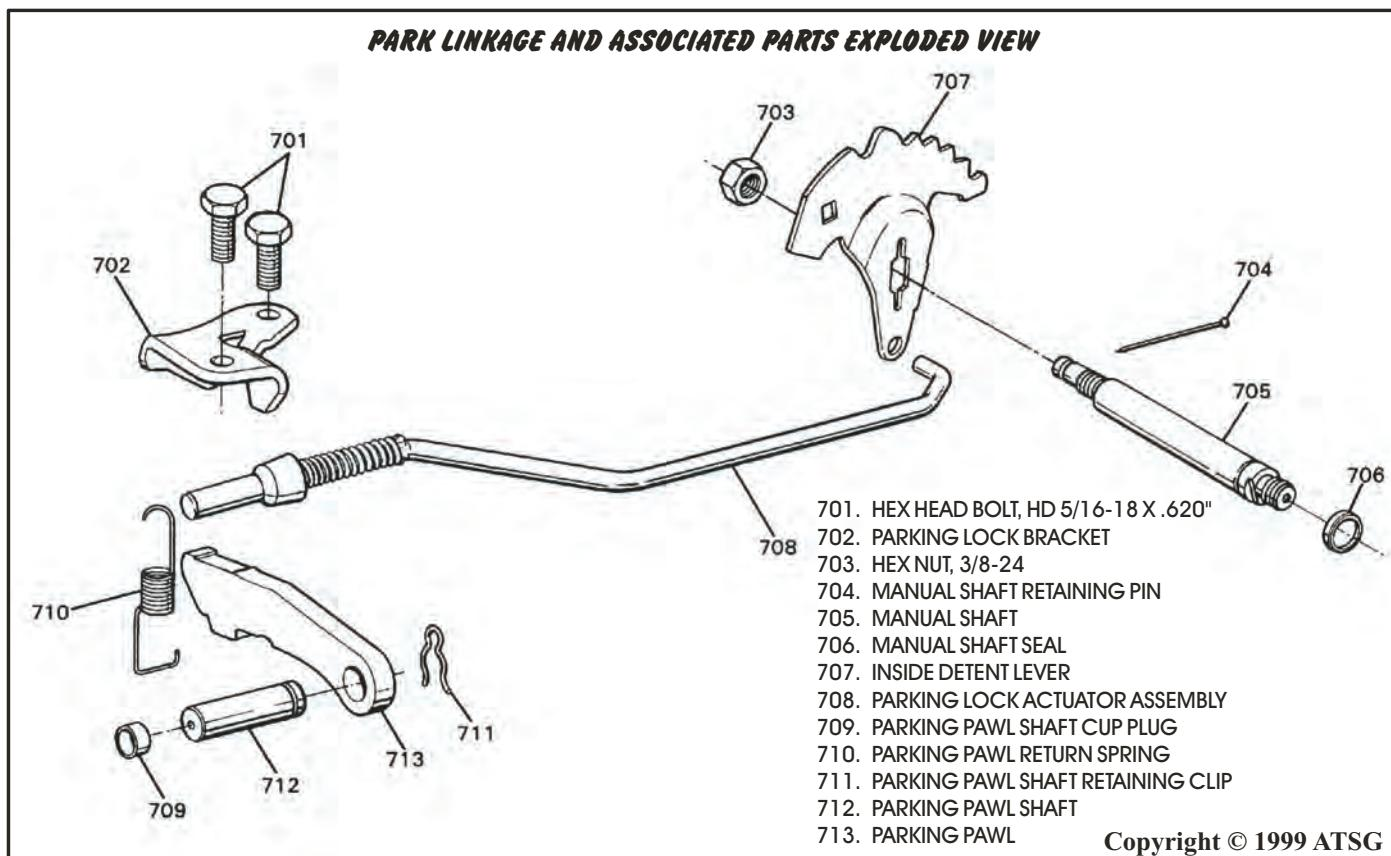

Figure 55
12. Install the park actuator rod (708) into inside detent lever (707), and install the assembly on the manual shaft and over the parking pawl, as shown in Figure 55.
13. Ensure that the flats in the inside detent lever are engaged with the flats on the manual shaft as shown in Figure 55.
15. Install the parking lock bracket using the two bolts, as shown in Figure 55.